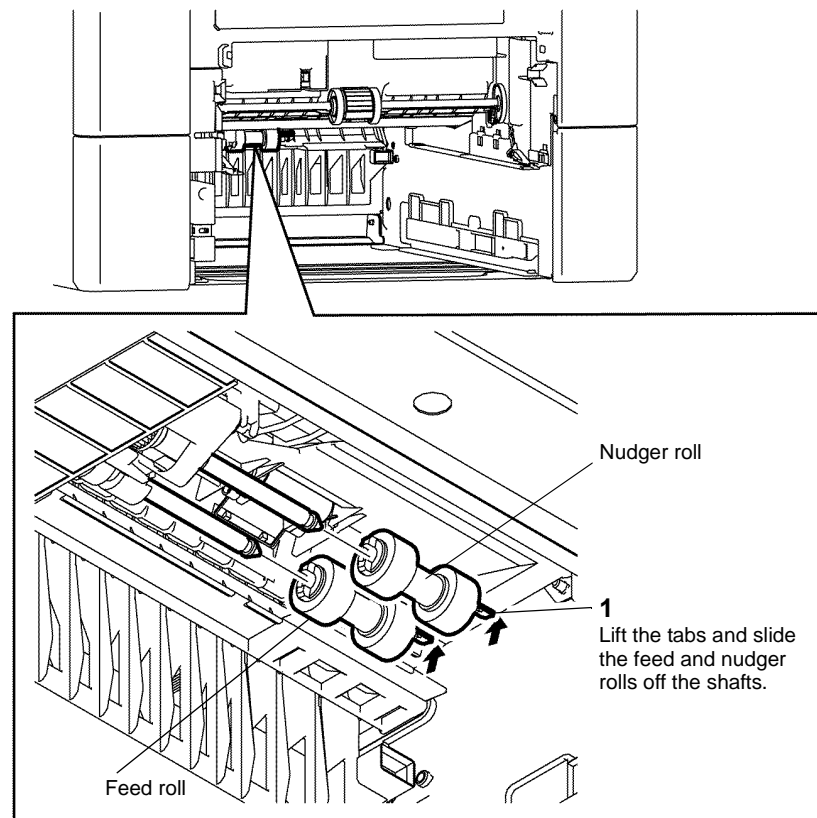

Figure 1 Remove the feed roller assembly
3. Remove the feed and nudger roll assemblies, Figure 1.